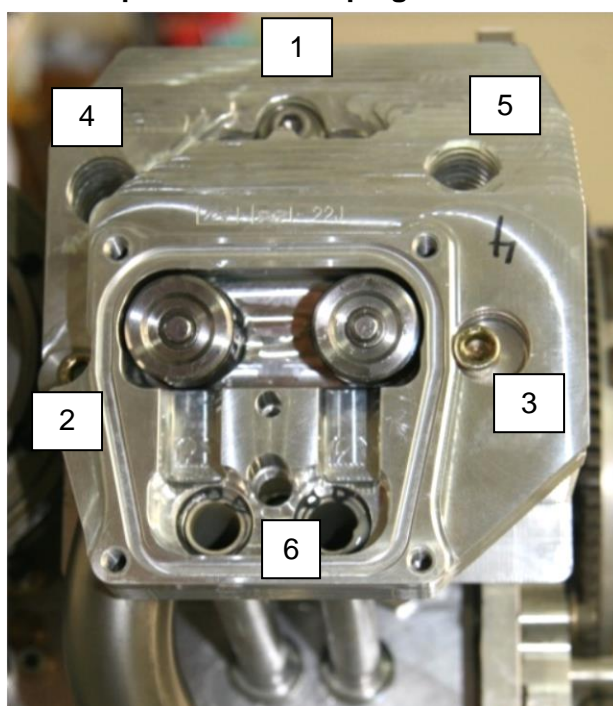

Figure 39 – Head Bolt Locations
- Remove the rocker covers and the 1/8 NPT plug which gives access to the lower head bolt (see at the location indicated as bolt #5 in Figure 39).
- Torque the screws in the order shown in Figure 39.